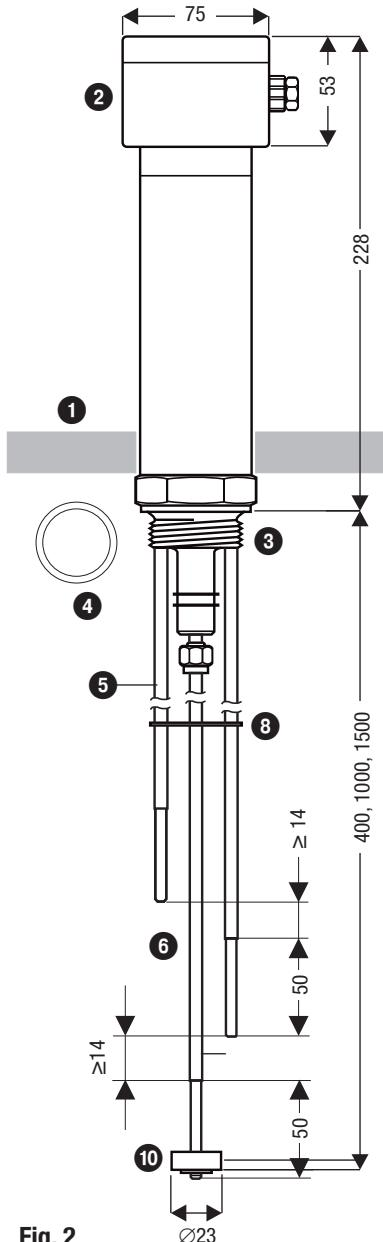
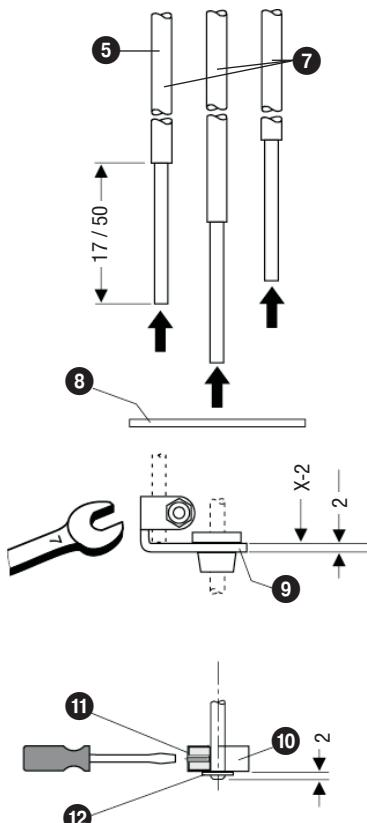

Fig. 2
Fig. 4
Fig. 2: Dimensions are applicable for installation in water with a conductivity $> 10 \mu\text{S}/\text{cm}$ / measuring length $< 1000 \text{ mm}$. Measuring surface extension ⑨ not required
5. Strip off 50 mm **Fig. 2** or 17 mm **Fig. 3** of the PTFE insulation from the ends of the electrode tips. **Fig. 4**
6. A plastic bag with screws, spacer discs and measuring surface extensions is included in the terminal box ②.
7. Slip spacer disc ⑧ onto electrode tips at equal distances. **Fig. 4**
9. Attach a measuring surface extension ⑨ (only required in **Fig. 3**) to each of the electrode tips arranged radially around the central electrode tip. **Fig. 4**
10. Attach measuring surface extension ⑩ onto the central electrode tip (LW) and fasten it with the set screw ⑪.
11. Put the retaining ring ⑫ onto the central electrode tip.